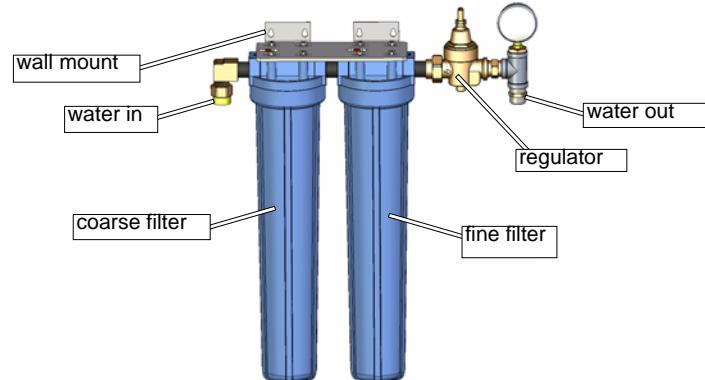

Figure 5-50: Incoming Water Filters - Wall Mounted
1. Water from your local source is piped into your building and is plumbed to two OMAX wall-mounted pre-filters (a 3 micron "course" filter and a 1 micron "fine" filter). See Figure 5-50.